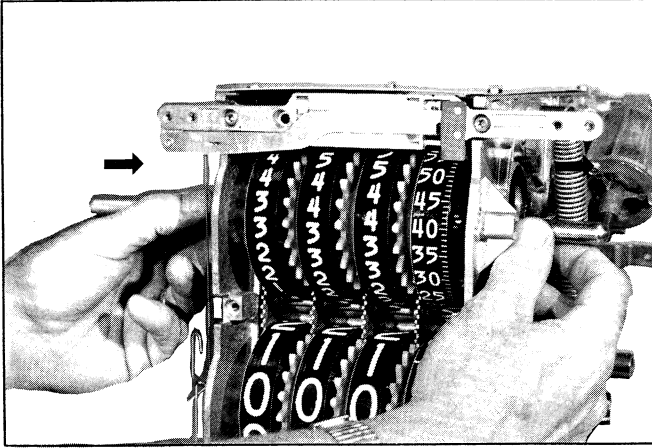

Figure 26. Pushing out short dummy shaft with long dummy shaft.
- b. Insert long dummy shaft, **open slotted end** first, from **rocker arm side** of computer pushing out short dummy shaft, Figure 26.